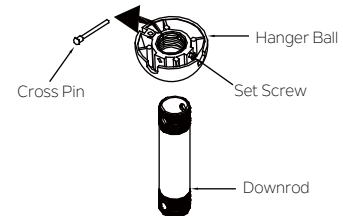

Fig. 6
Step 2. Remove the hanger ball from downrod assembly by loosening set screws, removing the cross pin, and sliding ball off the rod. (Fig. 6)